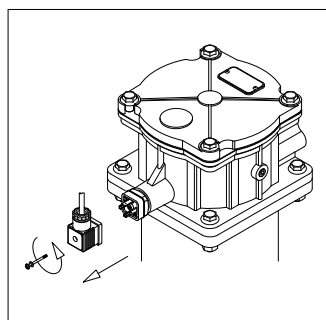

fig. 14
- (Fig. 14) Remove the connector of the differential indicator by unfastening the central screw (only for electrical indicators)
- For the mounting/dismounting of the indicator, please refer to the paragraph "Clogging indicator replacement" above (fig. 14÷17)